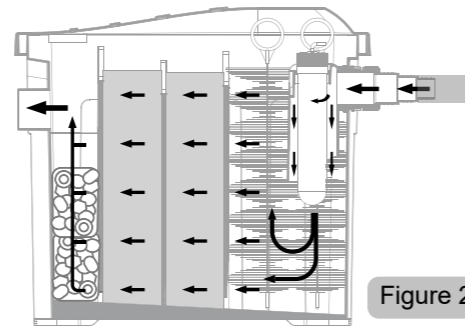

Figure 2
- 2) There are 4 layers of filter media with different functions (Referring to **Figure 2**) .